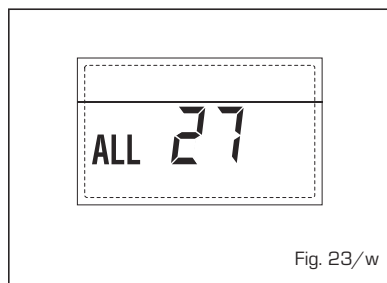

Fig. 23/w
**- ANOMALÍA COHERENCIA ENTRADA (S3) SÓLO POR SISTEMA 7 "ALL 28" (fig. 23/y)**